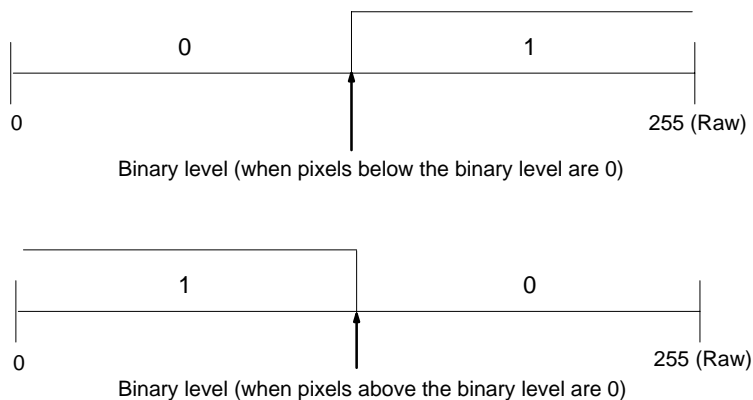

Fig. 1 Pure Binary
The image signals received from the cameras are output to the monitor as raw (monochrome) images. In order to simplify and speed up processing and measurement, those raw images can be converted to binary images of black (0) and white (1). In order to convert an image to binary, the binary level must first be set. The binary level is taken as the criteria for determining black and white pixels. (See Fig. 1 below.)